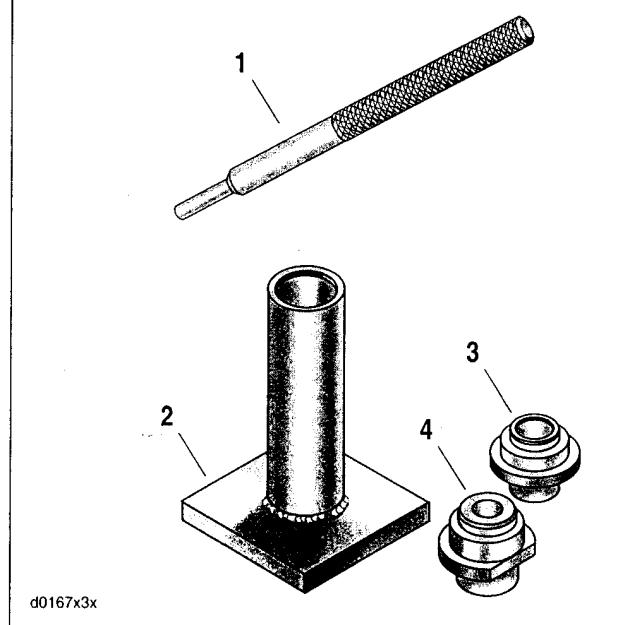

Figure 3-94. Valve Guide Replacement Tools
1. See Figure 3-94. Prepare cylinder head for valve guide replacement.
- a. Insert sleeve of intake (3) or exhaust (4) seat adapter into tube at top support stand (2).
- a. See Figure 3-94. Insert sleeve of intake (3) or exhaust (4) seat adapter into tube at top of support stand (2). Position cylinder head so that valve seat is centered on seat adapter.